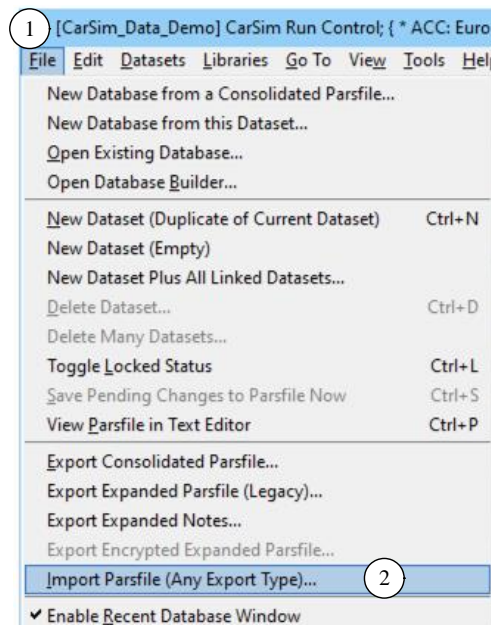

Figure 5. Select Import Parsfile (Any Export Type) from the File menu.
2. From the **File** drop-down menu (Figure 5, (1)), select the option **Import Parsfile (Any Export Type)** (2).